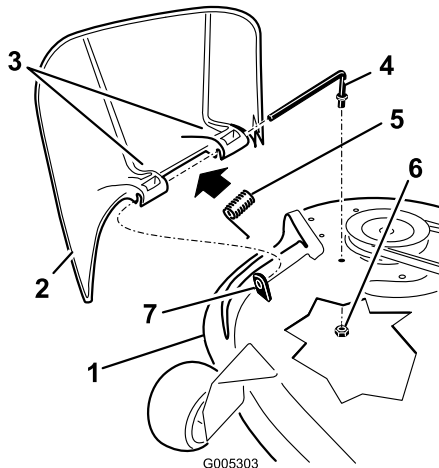

Figure 49
1. Locate items shown in Figure 49.
2. Remove the nut (3/8 inch) from the rod under the mower (Figure 49).
3. Slide the rod out of the short stand-off, spring, and grass deflector (Figure 49). Remove the damaged or worn grass deflector.
4. Replace the grass deflector (Figure 49).
6. Place the spring on the rod, with end wires down, and between the grass deflector brackets. Slide rod through second grass deflector bracket (Figure 49).
7. Insert rod at front of grass deflector into short stand-off on deck. Secure rear end of rod into the mower with a nut (3/8 inch) (Figure 49).